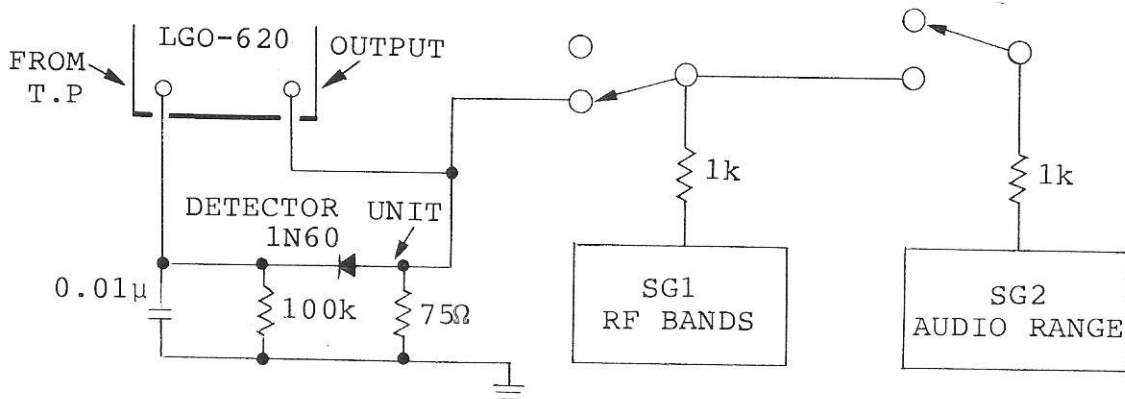

Fig. 5-2 Test connections.
- Detector unit, see Fig. 5-2
1. Connect a detector circuit between the OUTPUT and FROM T.P connector, see Fig. 5-2.
1. Connect two signal sources, SG1 (RF bands) and SG2 (AF range) to the detector input, see Fig. 5-2.
1. Referring to Fig. 5-2, only SG1(RF band) is used.